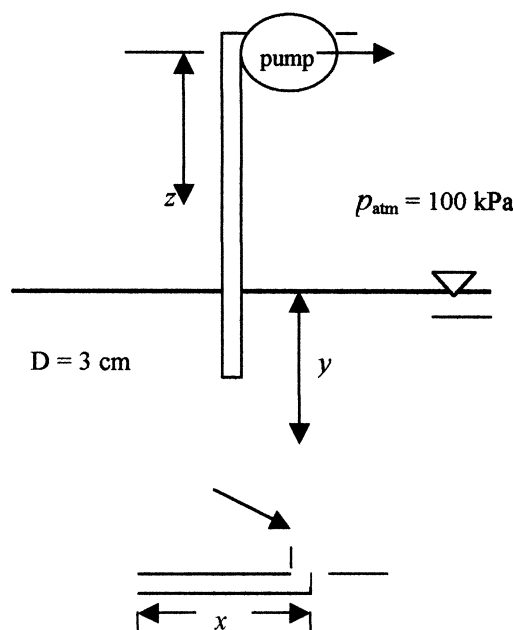

Fig. P3.183
3.183 The pump in Fig. P3.183 draws gasoline at 20°C from a reservoir. Pumps are in big trouble if the liquid vaporizes (cavitates) before it enters the pump. (a) Neglecting losses and assuming a flow rate of 65 gal/min, find the limitations on (x, y, z) for avoiding cavitation. (b) If pipe-friction losses are included, what additional limitations might be important?